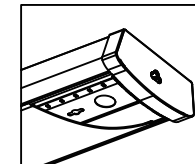

Figure 5
To install diffuser (B) - starting at one end of housing, insert diffuser slot onto edge of housing - See Fig. 5. Carefully squeeze diffuser to engage opposite side with housing. Continue this action down length of diffuser until fully installed onto housing. (Figure 5)